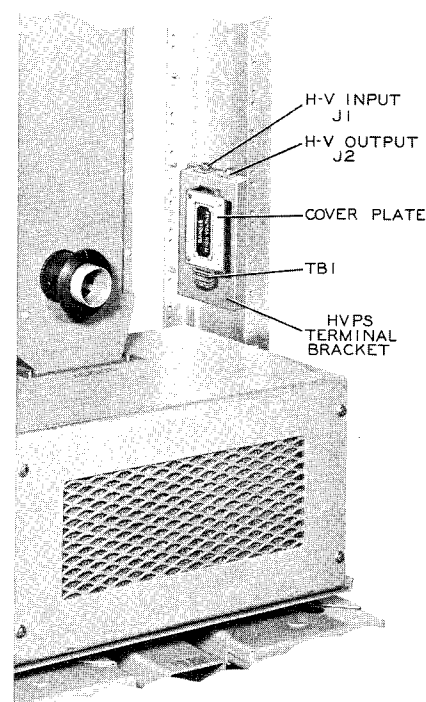

Figure 2-3. Location of Power Supply PP-2153/U Bulkhead Mounting Terminal Box
head mounting bracket to the bulkhead, mounting the terminal box on the AN/URC-32( ) rack, making the necessary electrical connections, and mounting Power Supply PP-2153/U to the bulkhead mounting bracket. Figure 2-3 shows the location of the terminal box on the AN/URC-32( ) rack, and figure 5-123 shows the electrical connections.
(1) Mount the terminal box (part of MK-446A/URC-32) on the AN/URC-32( ) rack using four 8-32 screws and four No. 8 washers in the sack attached to the terminal box. (See figure 2-3 for location of terminal box.)
All cables needed for basic installation of Radio Set AN/URC-32( ) (as shown in figure 2-6) are shipped as an integral part of the equipments. When a transceiver is to be flush mounted (see figure 2-7) a coaxial cable must be fabricated to connect the rack to the separately mounted high-voltage power supply (PP-2153/U, see figure 2-3). Figure 2-8 lists the instructions to be followed in fabricating the necessary cable.